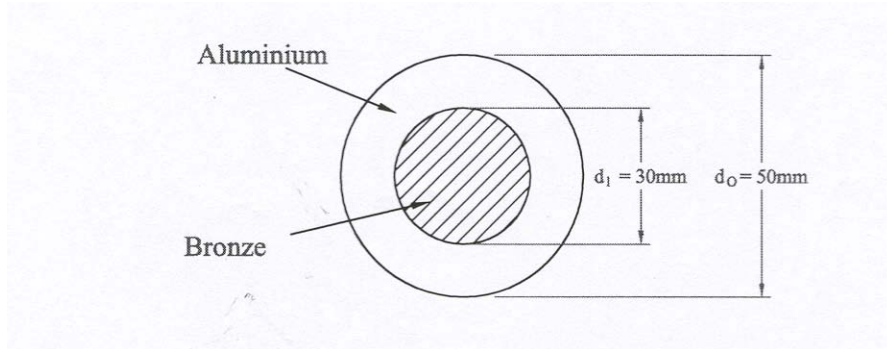

Figure 7/Gambarajah 7
7. (i) A bar with a composite cross section shown in **Figure 7** has its temperature raised by 30°C. If no slippage occurs between the two materials, determine the axial stress in each material. The properties of the material are: